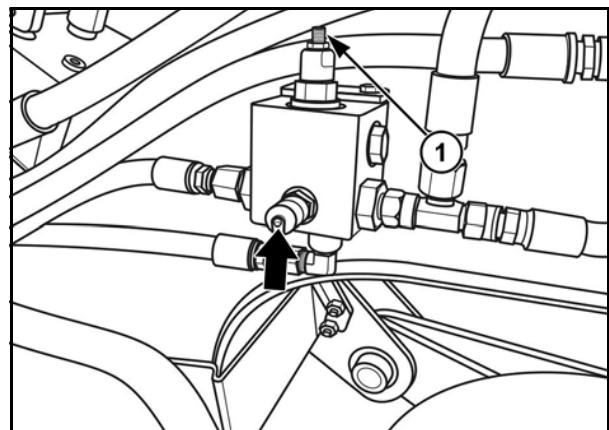

FIG. 55
If you cannot find the specified pressure, adjust the relief valve (1). (Fig. 55)